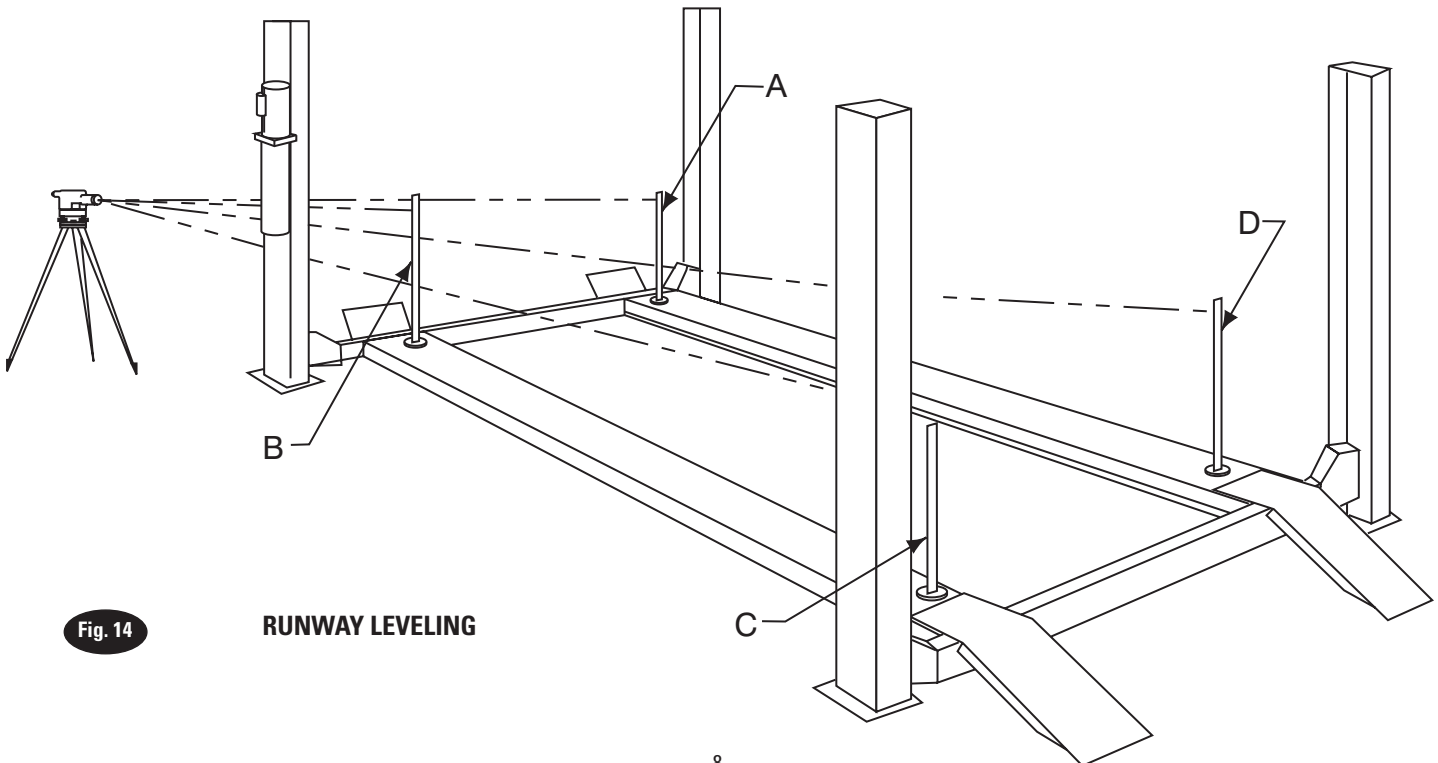

Fig. 14
- C. First place the Level target at the highest corner of the lift. Place it on the runway center line within 6" of yoke tube, whichever one is located over highest point. This will be referred to as target "A" position. Beginning with target "A" position, Fig. 14, sight the Level to the target and mark the number or the graduation on the inch scale of the target that aligns to the crosshairs of the Level, Fig. 15.
- D. Next, move the target and place it on the runway at point "B", Fig. 14. Rotate the Level and focus on the target scale. Adjust the column at "B" using shims under base plate, Fig. 13, until the cross-hairs of Level align to reference mark on the target scale. Repeat for points C and D.